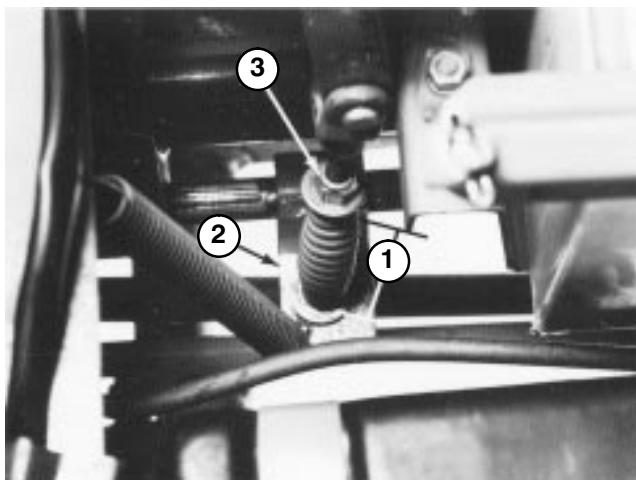

Figure 58
- 3. Measure length of PTO spring between flat-washers (Fig. 58). There should be a spring length of 3-3/16 inches (81 mm).
- 4. To adjust, hold head of adjusting screw with wrench (under PTO actuating arm) and turn locknut (Fig. 58).